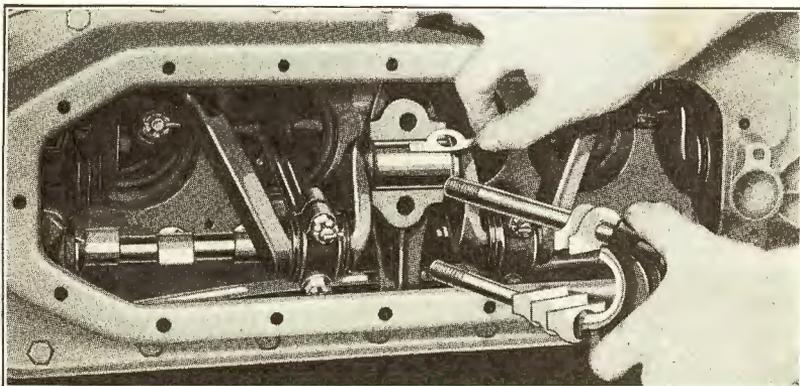

Fig. 259
- (e) Withdraw one of the brass shims from each bolt (See Fig. 259). If shims have all been removed in making previous bearing adjustments it is necessary to file the cap in the same manner as the connecting rod cap (See Fig. 232). As a general rule, however, by the time all shims have been removed, the babbitt in the block has become worn to such an extent that the block should be rebabbitted.